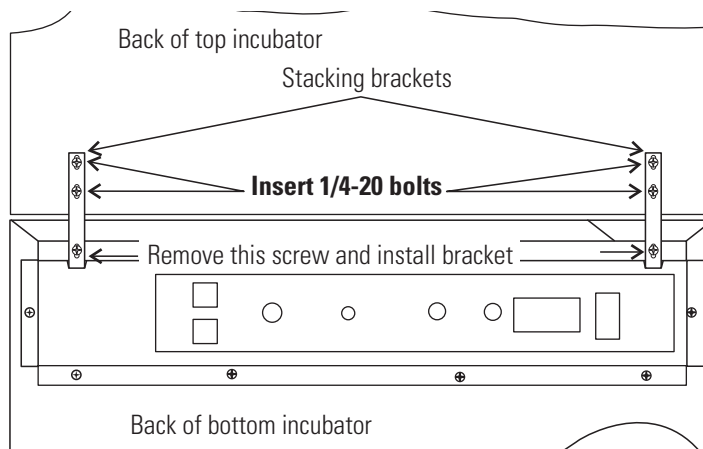

Figure 1-8. Two Screws From Control Panel Back
6. Remove and retain the two screws from the back of the control panel on the bottom unit as identified in Figure 1-8.
7. Secure the stacking brackets to the back of the bottom unit, using the retained screws (Figure 1-8). Be sure to align the brackets with the mounting holes on the back of the upper incubator. Secure the brackets to the upper unit with the ¼-20 bolts provided in the stacking kit. A 7/16" wrench or socket is required for the bolts.